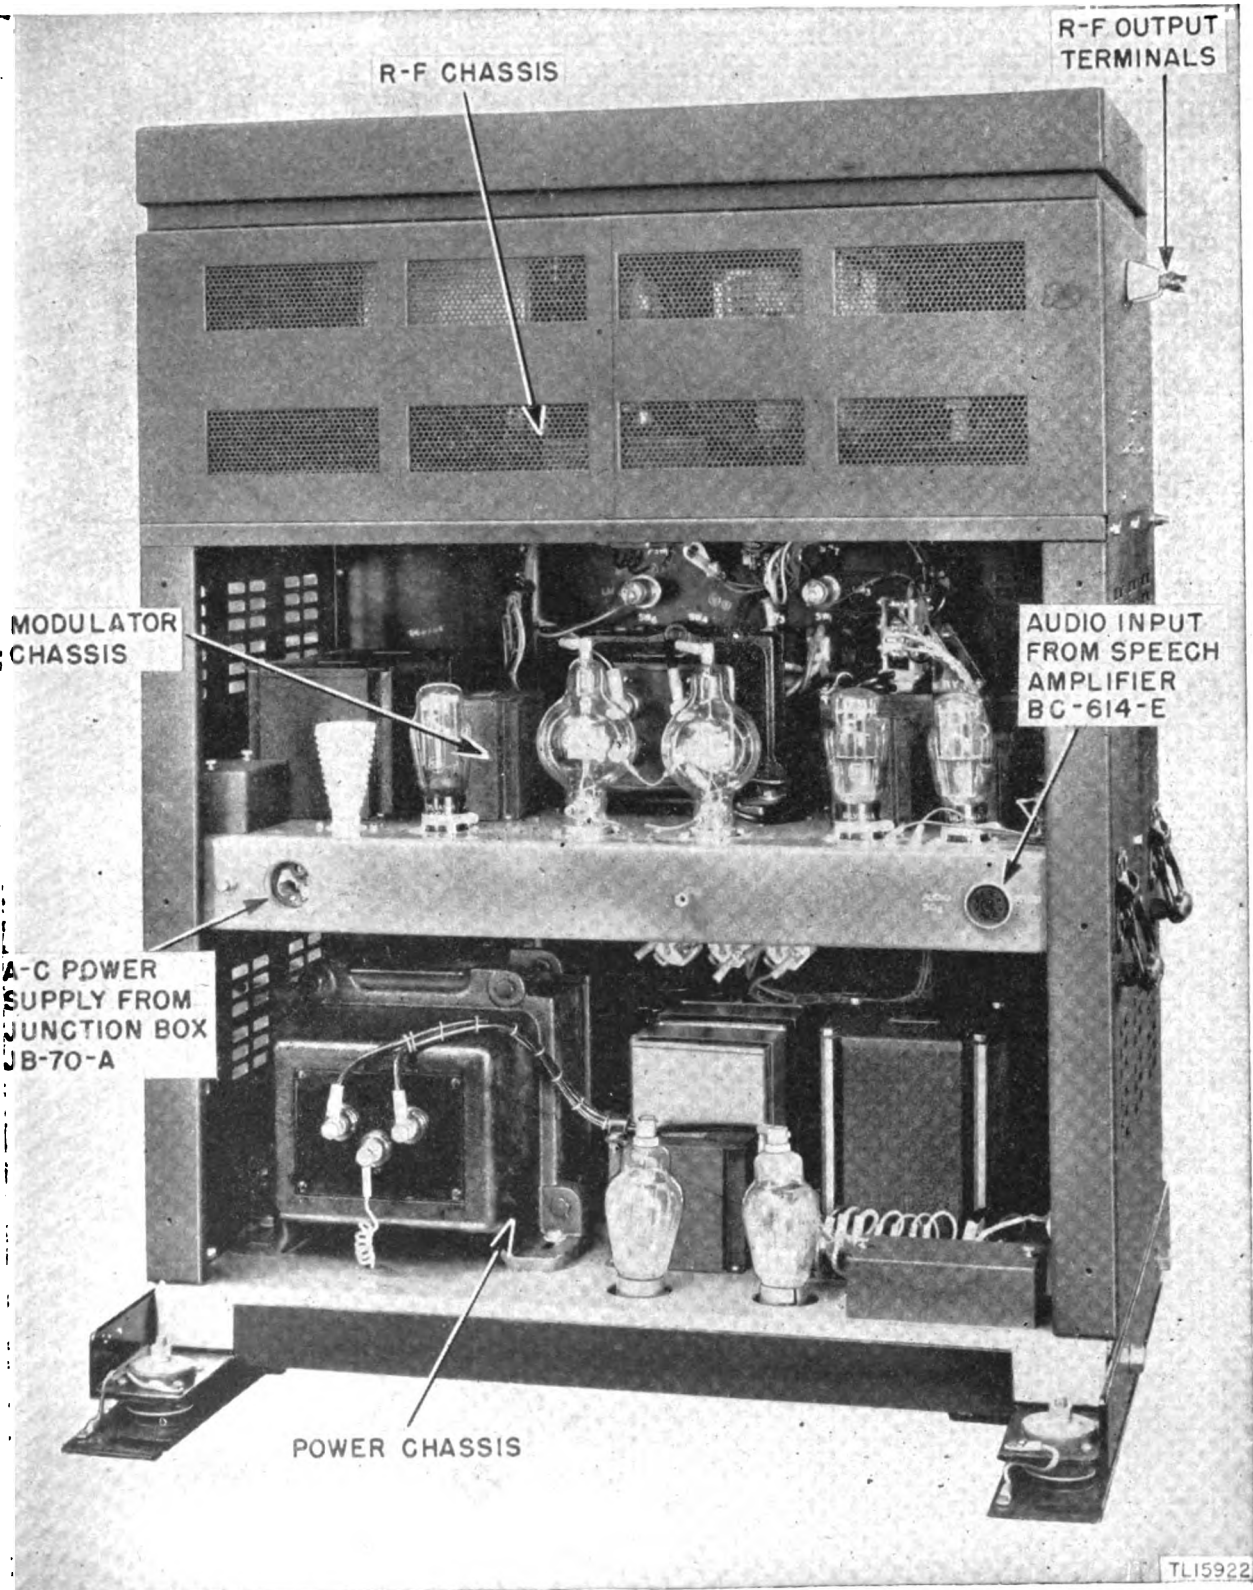

Figure 7. Radio Transmitter BC-610-E chassis assembly—rear view.
7. Radio Transmitter BC-610-E (fig. 7)